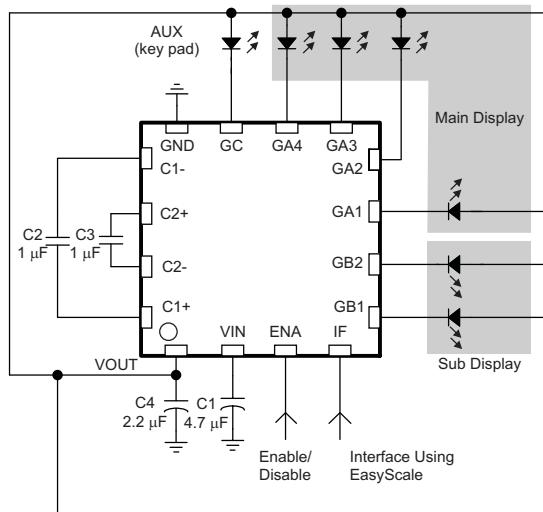

Figure 17. Application Circuit—Clam Shell Mobile Phone Design
- **Clam Shell (Figure 17)**—application circuit for driving four LEDs for main display and two LEDs for the subdisplay.